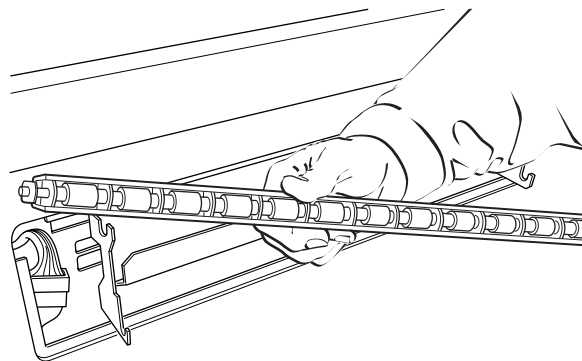

Fig. 13
- Clean the film sensor with the film detection rollers and the holder with a damp sponge or a lint-free cloth (fig. 13).